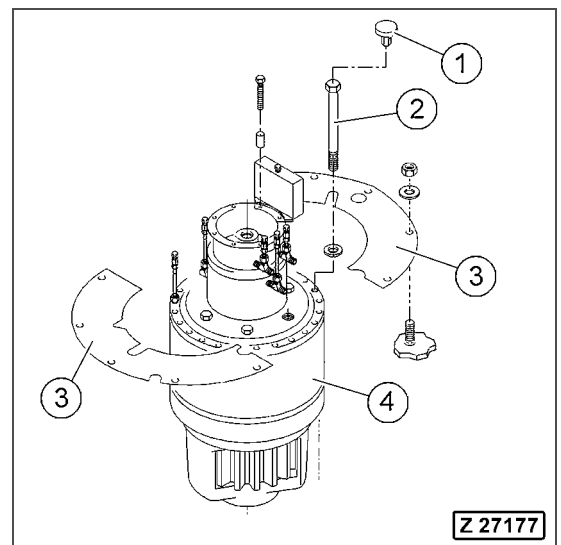

Fig. 3-137
12. Remove the cover plates (Fig. 3-137, Pos. 3).
13. Remove the protection caps (Fig. 3-137, Pos. 1) from the bolt heads and remove the slew gear mounting bolts (Fig. 3-137, Pos. 2). Discard the bolts.
15. Remove the slew gear box (Fig. 3-137, Pos. 4) using a crane.